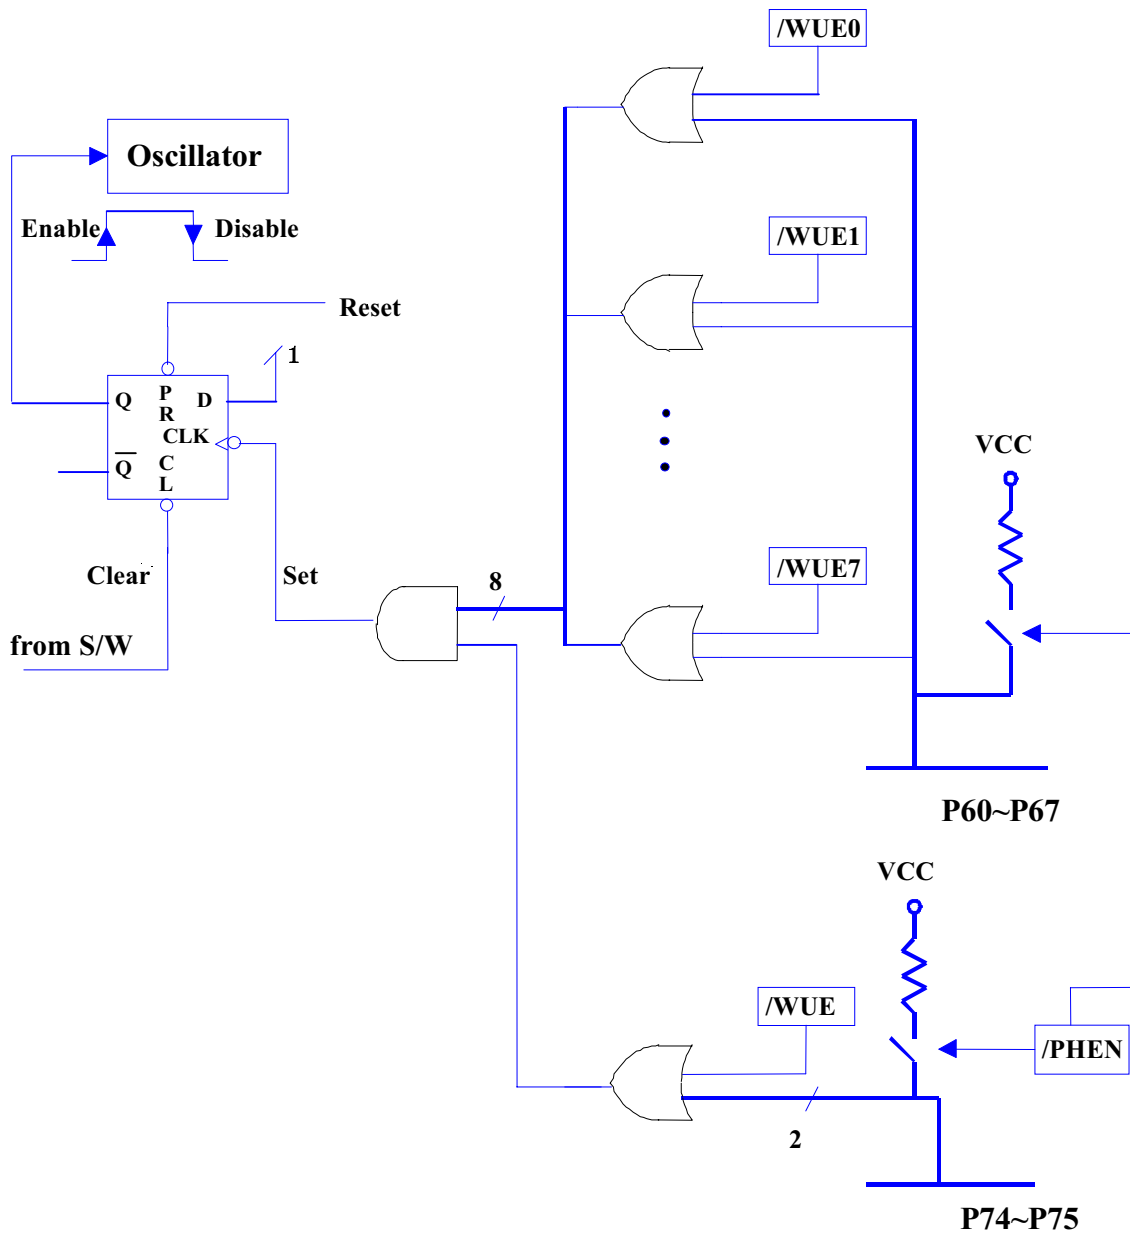

Fig. 5 Sleep Mode and Wake-Up Circuits on I/O Ports Block Diagram
output of the oscillator, once the oscillator is enabled again, there is a delay for approximately 18ms¹ (oscillator start-up timer, OST) before the next instruction of the program is executed. The OST is always activated by a wake-up event from sleep mode regardless of the Code Option bit ENWDT status is "0" or otherwise. After waking up, the WDT is enabled if the Code Option ENWDT is "1". The block diagram of SLEEP2 mode and wake-up invoked by an input trigger is depicted in Fig. 5. The SLPC bit can be read and written.
- (A) Any of the wake-up pins is “0” as illustrated in Figure. 5. Upon waking, the controller will continue to execute the succeeding address. Under this case, before entering SLEEP2 MODE, the wake-up function of the trigger sources (P60~P67 and P74~P75) should be selected (e.g., input pin) and enabled (e.g., pull-high, wake-up control). It should be noted that after waking up, the WDT is enabled if the Code Option bit ENWDT is “0”. The WDT operation (to be enabled or disabled) should be appropriately controlled by software after waking up.
- (B) WDT time-out (if enabled) or external reset input on /RESET pin will trigger a controller reset.